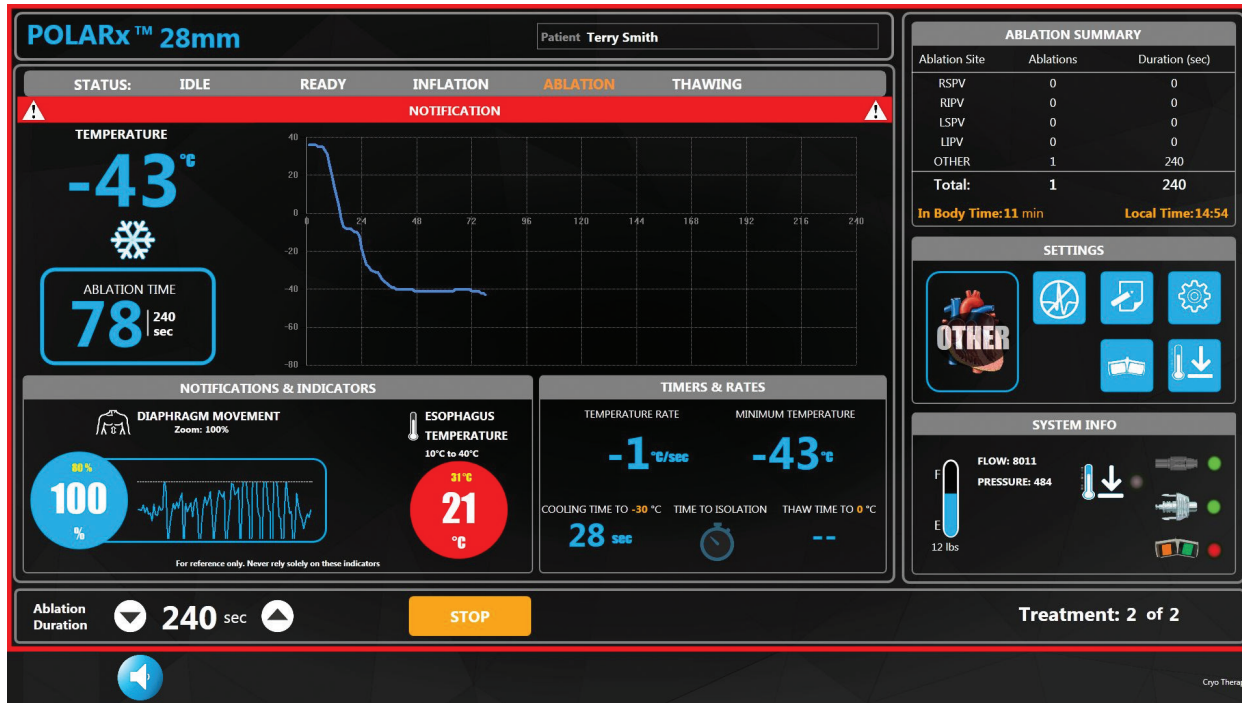

Figure 8. Esophagus temperature alert
- Select the numeric value next to the **Esophagus Temperature**. Set the Esophagus Temperature to the desired temperature using the up/down arrows. When the temperature reaches the set point chosen in this field, the Esophagus Temperature reading on the Therapy screen will turn red and flash, a red border around the screen will flash and the Temperature graph title bar will flash red with an audible notification (Figure 8). The alert may be displayed during inflation, ablation, and thawing phases.
- The current esophageal temperature data will be displayed in °C. If the temperature reaches the setpoint, the current temperature will be displayed in a red circle and flash, a red border around the screen will flash and the Temperature graph title bar will flash red with the audible notification (Figure 8). The alert is present during inflation, ablation, and thawing phases.